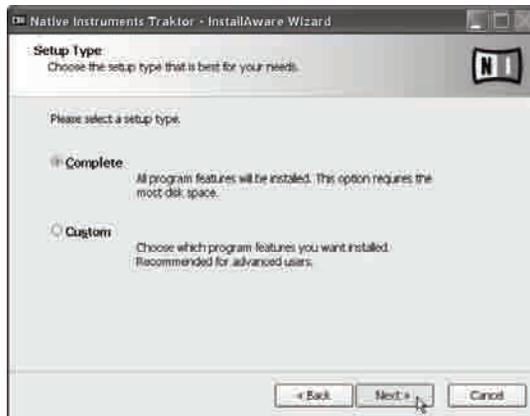

Figure 4.18
- Select a *Setup Type* and click **Next**. (Figure 4.18)